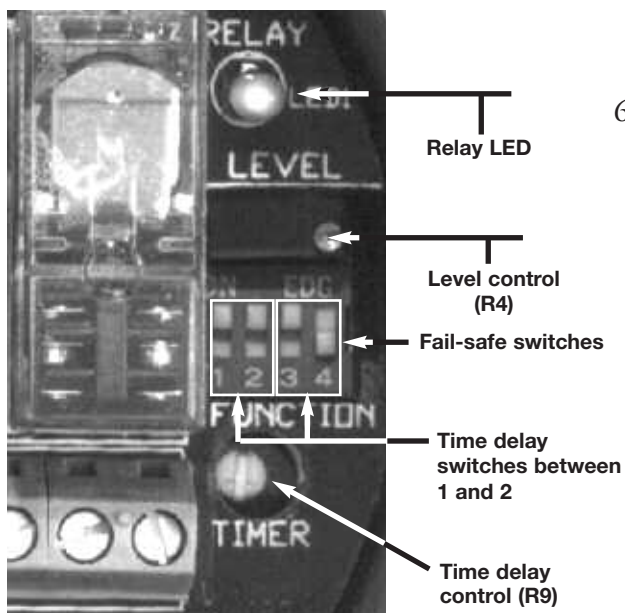

Figure 7
8. Select operating mode. (Refer to **OPERATING MODE SELECTION** on page 5 for detailed information.) Make sure that the fail-safe switches are in the correct position for your selection. Refer to Figure 7 and the **RELAY WIRING CHART** on page 5.
2. There are fail-safe switches on the switch which may be set in either a High or Low position. Refer to Figure 7.
- 6a. When relay coil is de-energized (fail-safe) the circuit between common (COM) and the normally open (NO) terminal is open and a connection is made between common (COM) and the normally closed (NC) terminals. The LED is off.